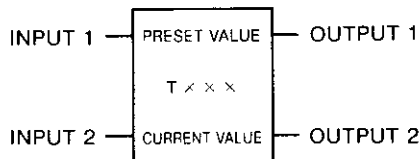

Fig. 5.13 Timer General Form
The transitional contact to the associated reference coil in the skipped network is not operated correctly. (Fig. 5.13.) The contact remains ON or OFF.
Fig. 5.13 shows the basic form of a timer. A timer is built vertically and needs two elements (top and bottom). Specify any of constant K or reference numbers, referring to Table 5.7. $T \times \times \times$ identifies a specific type of timer. Specify any of T1.0, T0.1, or T.01 referring to Table 5.6.
- When the current value is equal to the preset value (10), the timer stops and output 1 (coil 00020) is turned ON and output 2 (coil 00021) OFF.
- If input 2 is ON and input 1 is cycled ON-OFF-ON-OFF, the time intervals while input 1 is ON are added. See Fig. 5.13.